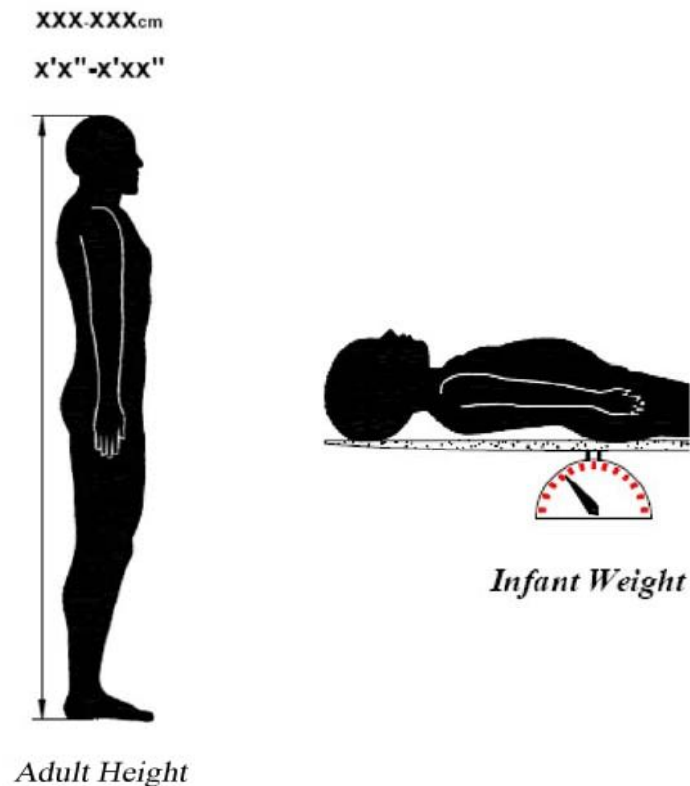

Figure 10: Measurements
- Patient height or infant weight (see Figure 10)